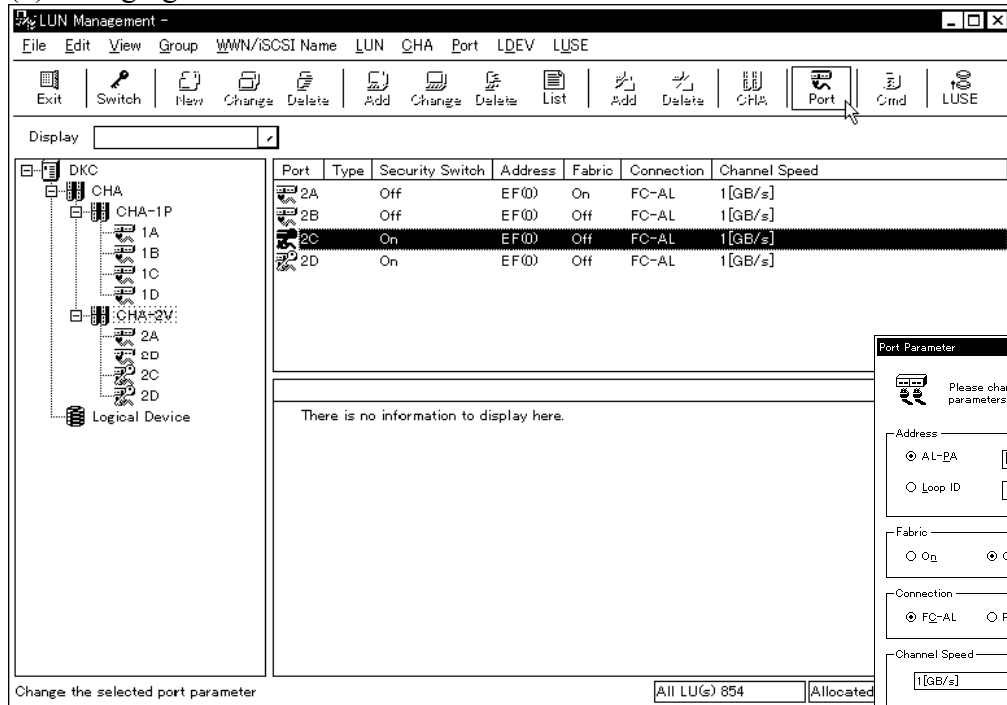

Figure 7.1 Main Window
- ① Select (CL) a port from the upper right list.
- ② Select (DR) [Parameter...] from the [Port] menu in the Main window (Figure 7.1).